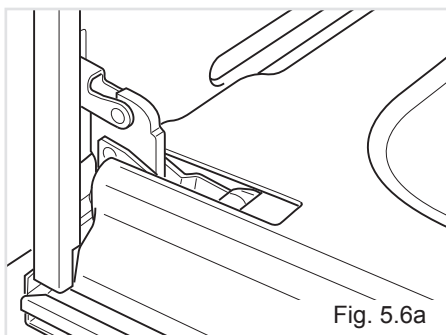

Fig. 5.6a
- Open the door to the full extent (fig. 5.6a).